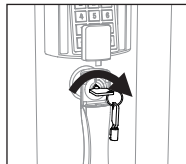

Figure 2
2. Insert the override access key into the lock and turn to the right. (Figure 2)